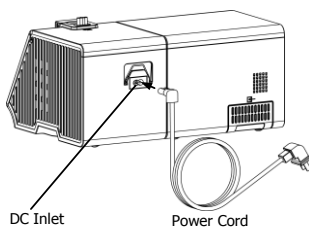

Fig. 11-3
- (1) Insert the plug of the power cord into the DC inlet on the back of the device, as shown in Fig. 11-3;